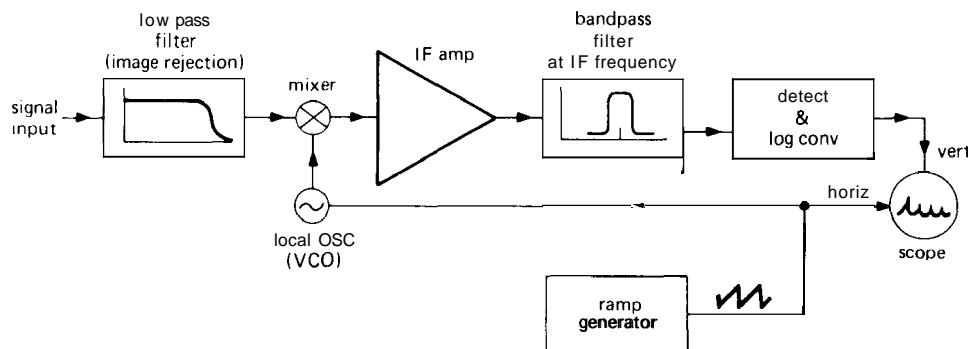

Figure 15.43. Swept-LO spectrum analyzer.
Spectrum analyzers come in two basic varieties: swept-tuned and real-time. Swept analyzers are the most common variety, and they work as shown in Figure 15.43. What you have is basically a superheterodyne receiver (see Section 13.16), with a local oscillator (LO) that can be swept by an internally generated ramp waveform. As the LO is swept through its range of frequencies, different input frequencies are successively mixed to pass through the IF amplifier and filter. For example, suppose you have a spectrum analyzer with an IF of **200MHz** and an LO
chirp/Z transform. In this method a dispersive filter (delay time proportional to frequency) replaces the IF **bandpass** filter in the swept-LO analyzer (Fig. 15.43). By matching the LO sweep rate to the filter's dispersion, you get an output that superficially resembles the swept analyzer output, namely a linear scan of frequency versus time during each sweep. However, in contrast to the swept-LO analyzer, this scheme gathers signals from the entire band of frequencies continuously. Another interesting technique for real-time spectral analysis is the Bragg cell (or "acousto-optic spectrometer"), in which the IF signal is used to generate acoustic waves in a transparent crystal. These deformations diffract a laser beam, generating a real-time display of the frequency spectrum as light intensity versus position. An array of photodetectors completes the analyzer output. Bragg-cell spectrometers are used in radio astronomy. A typical unit has 2GHz instantaneous bandwidth, analyzed into 16,000 channels of 125kHz bandwidth each. When choosing a spectrum analyzer type, be sure to consider trade-offs among bandwidth, resolution, linearity, and dynamic range.